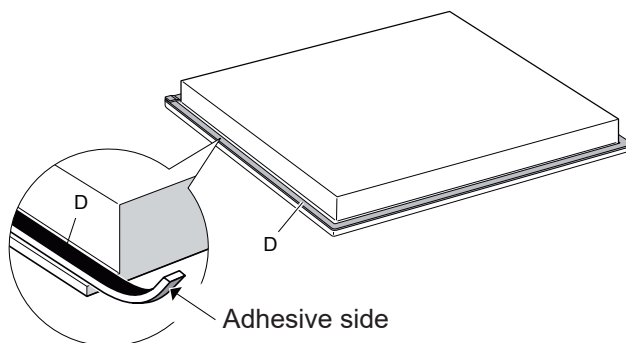

Fig. 1.5
- Spread the seal “D” around the edge of the hob (fig. 1.5).